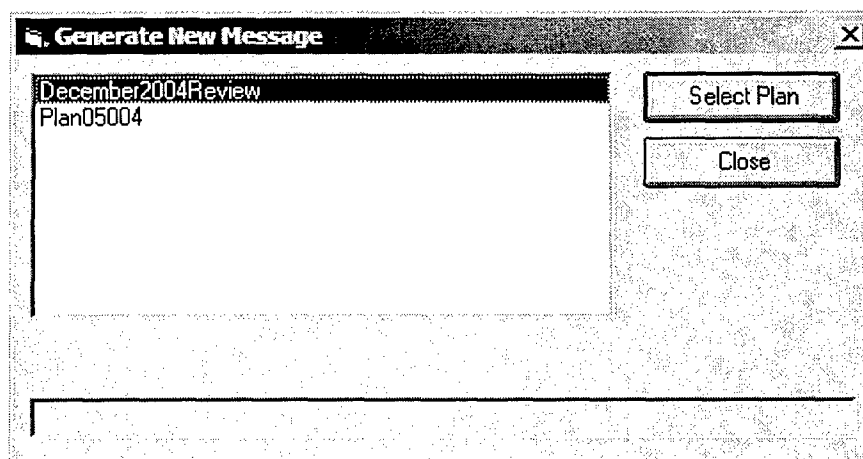

Figure 31. Select Plan to Generate Message Tables
2. You will see a list of plans associated with the selected fiscal year as shown in Figure 31. Click on the plan you want and Click *Select Plan*.